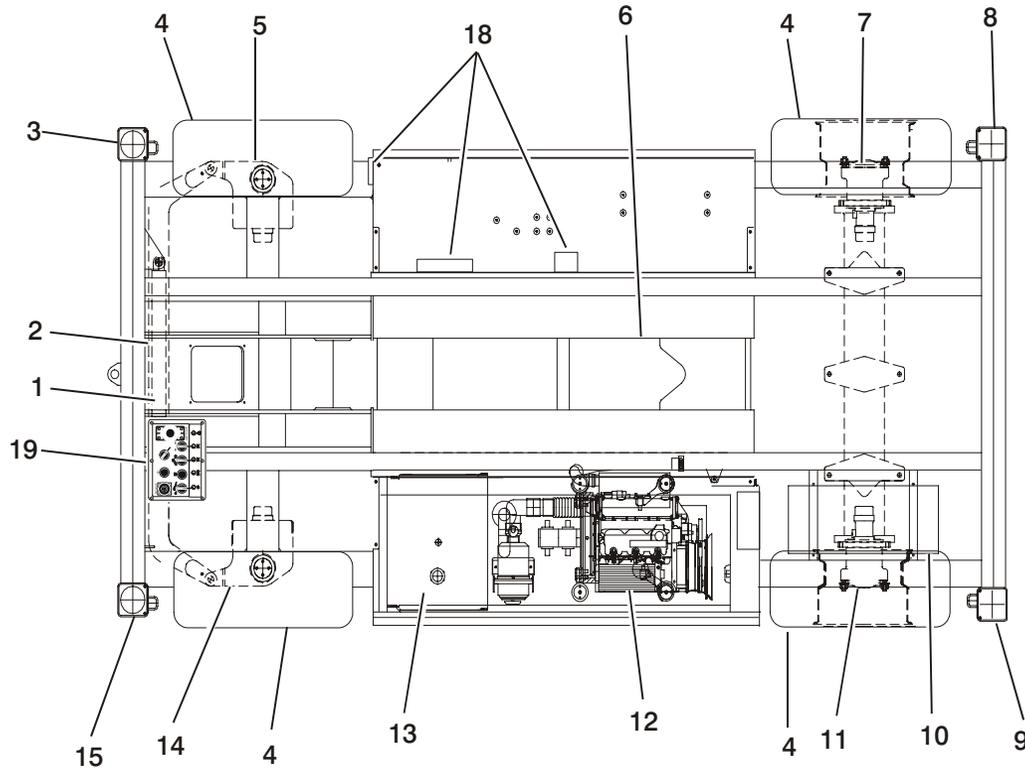

Figure 2-2. Walk - Around Inspection Diagram
5. **“Walk-Around” Inspection** – Refer to Figure 2-2., Walk - Around Inspection Diagram.